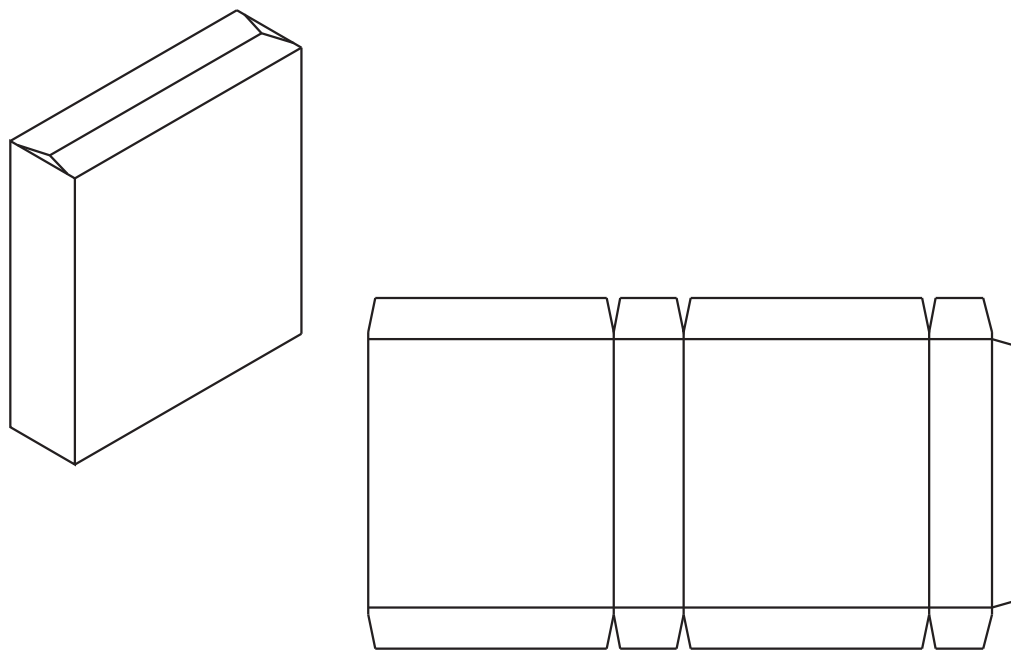
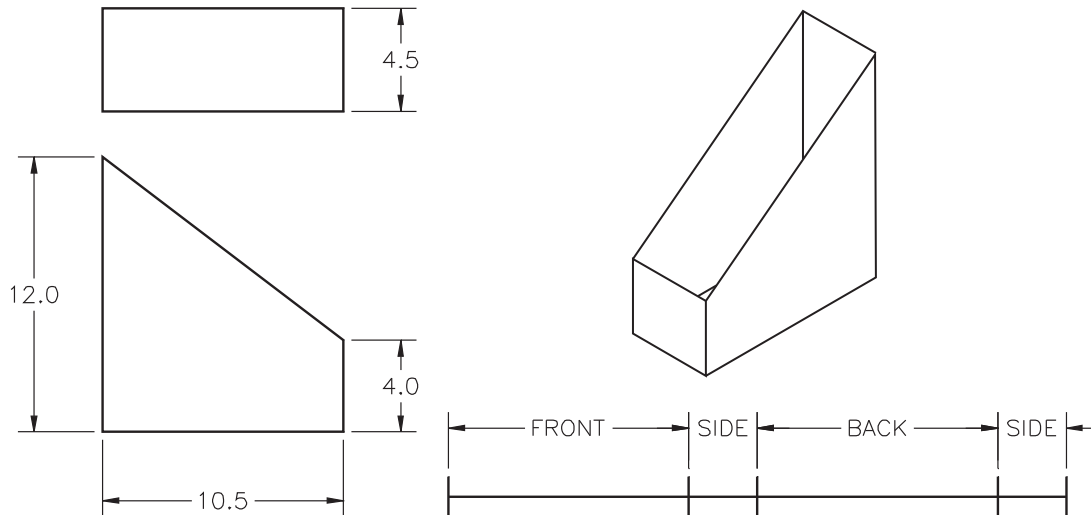

Fig. P2-1
Fig. P2-2
Many manufactured products begin as flat pieces of metal, plastic, or other material. Examples include cereal boxes, heating and cooling ducts, and even items of clothing. Manufacturers use flat *patterns* to cut material to the proper size and shape. The construction of these patterns is known as *development*. Fig. P2-1 shows a box constructed for a company that distributes breakfast cereals, as well as the pattern used to create the box.
Study the magazine holder shown in Fig. P2-2. It is to be manufactured from cardboard, and you are responsible for developing the pattern needed to cut the cardboard to size. Show the fold lines as well as the overall shape of the pattern, as demonstrated in Fig. P2-1.
2. Referring to the orthographic views as necessary, create a stretchout line for the magazine holder. A *stretchout line* is a line that shows the total length of the finished pattern and the relative lengths of each part. An example stretchout line for the magazine holder is shown in Fig. P2-2.